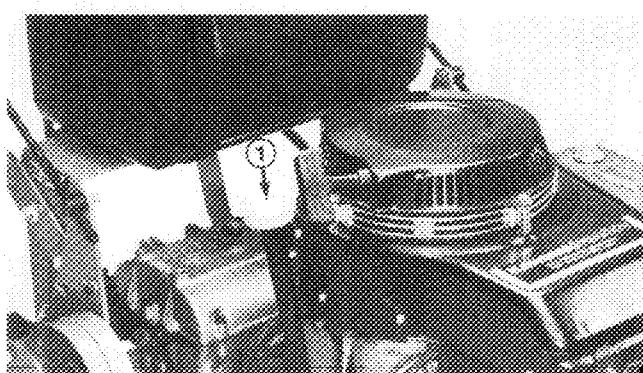

Figure 7
3. Remove dipstick (Fig. 7).
5. Wipe end of dipstick with clean rag and insert it into filler neck. Then remove the dipstick and check level of oil by reading the dipstick (Fig. 7). If level of oil is low, add only enough oil to raise level to FULL mark on dipstick. DO NOT ADD OIL SO LEVEL RISES ABOVE FULL MARK BECAUSE ENGINE COULD BE DAMAGED WHEN IT IS STARTED.